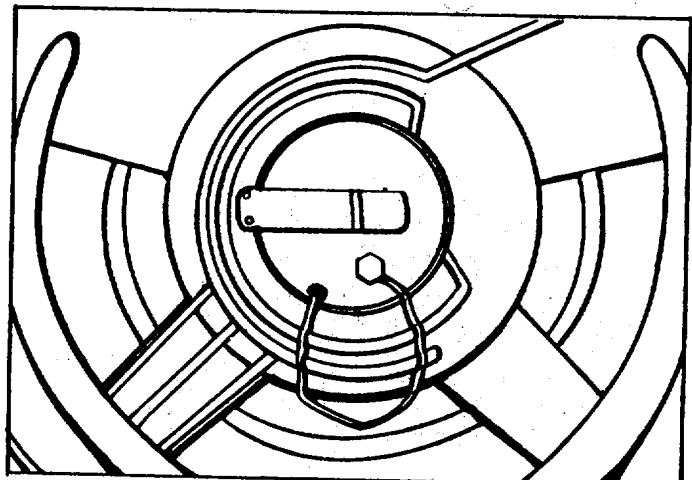

Fig. 7. Proper alinement of oil well cover on end shield
2. A recess in the perimeter of the oil well cover (see Fig. 7) provides electrical clearance for the switch and allows the switch arm and wear pad to move freely.